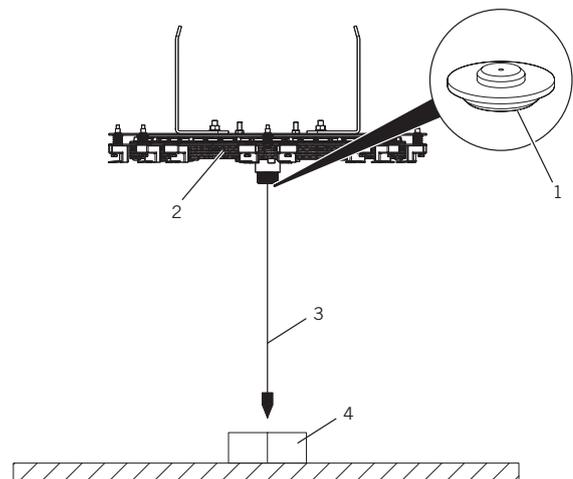

Fig. 77 Aligning the operator
2. Align bearing shell (Fig. 77/4) to axis center of drum walls and mark mounting holes on the floor.
6. Align bearing shell (Fig. 77/4) on dowels.
Mount bearing shell (Fig. 77/4) with mounting screws. Observe the screw tightening torques.
8. Insert the enclosed plumb aid from the top into the center of the operator (Fig. 77/1).
9. Guide the plumb line (Fig. 77/3) from the top through the center of the operator (Fig. 77/1).
10. Lower the plumb line (Fig. 77/3) via the bearing shell (Fig. 77/4) as shown in Fig. 77.
11. Allow the plumb line (Fig. 77/2) to stop swinging over the bearing shell (Fig. 77/3).
12. Align the operator (Fig. 77/2) with the bearing shell (Fig. 77/3) using the plumb line (Fig. 77/4).
13. Remove plumb line (Fig. 77/3) and plumb aid from the center of the operator (Fig. 77/1).
15. Position the lift truck underneath the operator (Fig. 77/1).